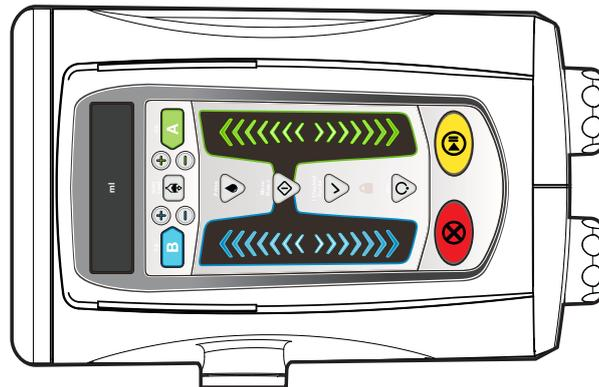

Figure 15 - 2: Injector Head
2. Clean the injector head surfaces (excluding pistons and syringe interface, refer to Figure 15 - 3: Piston) with a clean, soft, non-linting wipe dampened with warm water (wet, but not dripping) for a minimum of one 1 minute and until visibly clean. Replace wipe if it becomes visibly soiled. During the 1 minute cleaning time, make certain that all seams, recessed areas, and buttons are clean. Refer to 15.3.3 - Cleaning the Pistons, Syringe Interface, and Light Pipe to clean the syringe pistons and syringe interface.
4. Wipe all external surfaces with the exception of the syringe pistons and syringe interface (refer to Figure 15 - 3: Piston) with Sani-Cloth® Plus or CaviWipes™ for 1 minute or until visibly clean. Make certain that all seams, recessed areas, and buttons are clean. Refer to 15.3.3 - Cleaning the Pistons, Syringe Interface, and Light Pipe to clean the syringe pistons and syringe interface.